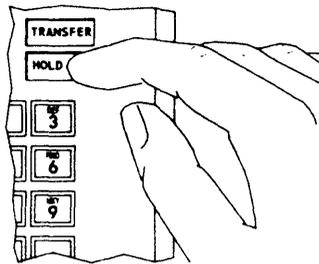

Figure 19
- Touch the HOLD button (Figure 19). The green light next to the line button should “flutter” – go on and off rapidly.